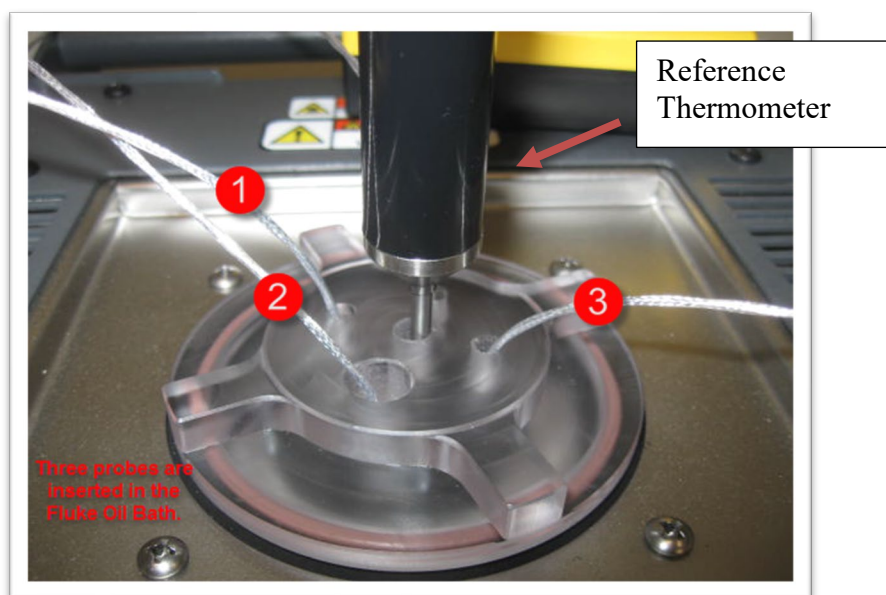

Figure 4 – Probes inserted in Fluke Oil Bath
- 5.8. Once the bath has stabilized, insert the thermocouple probe of the reference thermometer and probe(s) of the lab thermometer(s) that need to be calibrated into the holes in the top of the Fluke Bath. See Figure 4. Do not submerge CheckPoint probes in the oil above the probe connector. Wait another 15 minutes for the thermometers or probes to reach equilibrium and record the readings from the reference and lab thermometer(s). If there are multiple thermometers or probes in the bath, it may take longer (20-25 min) to reach equilibrium.